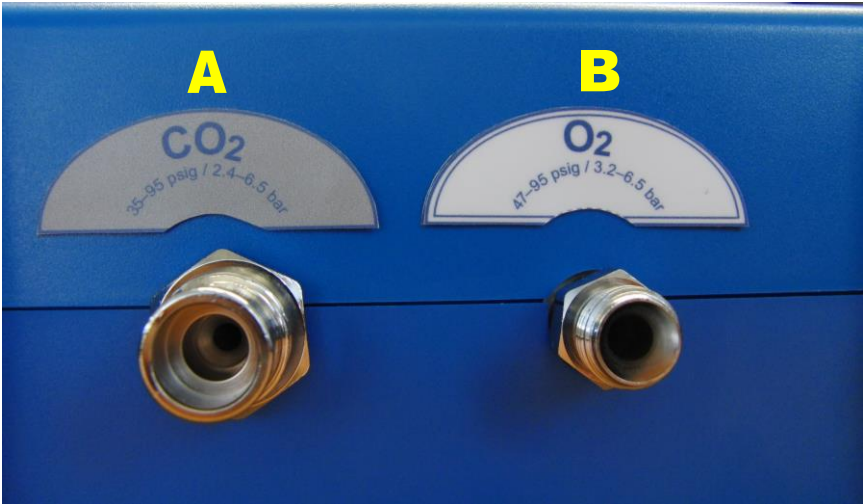

Figure 2: Right-Side Panel Connections
- 1) Connect one end of the O₂ hose to the O₂ inlet fitting on the ClearMate™ (*labelled B in Figure 2*). Connect the other end to a clean, dry medical-grade O₂ supply. Ensure supply is delivering O₂ at a pressure between 47-95psi.
Connect one end of the CO₂ hose to the CO₂ inlet fitting on the ClearMate™ (labelled A in Figure 2). Connect the other end to a clean, dry medical-grade CO₂ supply – do not turn on CO₂ supply yet.